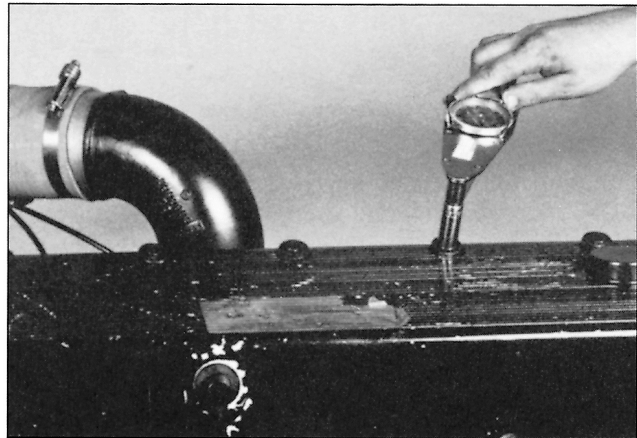

FIG. 24
5. Install the capscrew assemblies in the cover (Fig. 24).